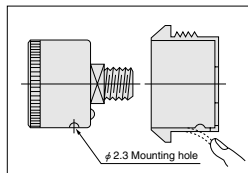

Figure 3
2. When inserting, check that (1) the two set screws on the back of the pressure gauge case are on the lower side, and (2) two set screw holes are found on the bottom of the panel mounting case's square part. After confirming the above two items, push in the pressure gauge.
3. With the unit in the inserted position, check to see that the convex section at the bottom of the panel mounting case that is used to prevent falling is inserted into the mounting hole (φ 2.3) [0.091in.] at the bottom of the pressure gauge case. If the pressure gauge and panel mounting case have been assembled correctly, the insertion tab will snap smoothly into place. If it does not go in smoothly, lift up on the tab and the unit should then slide in easier (see Figure 3).